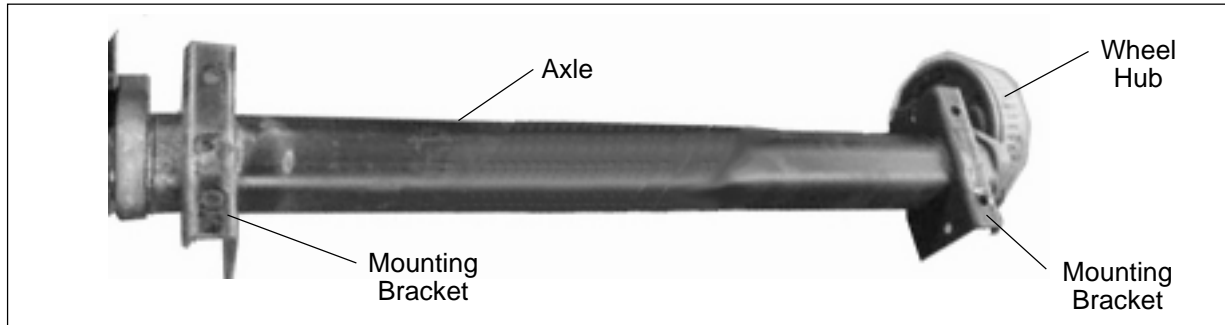

Figure 1 — Chipper Axle
3. Use a mechanics creeper and a strong light to inspect the axle mounting bracket for any evidence of cracks where the bracket is bolted to the chipper frame (refer to Figure 1).